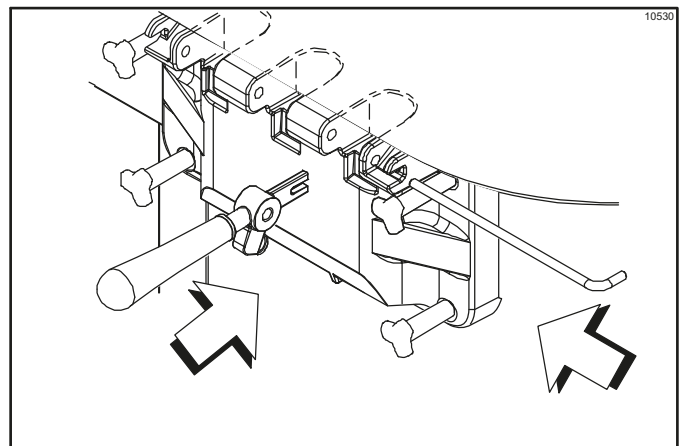

Figure 6-16
23. Slide the pivot pin through the draw handles as the handles are inserted into the draw valves. (See Figure 6-16.)